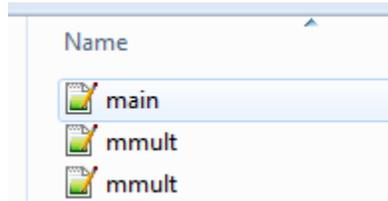

Figure 25 – MinizedMM Source files
- a. Note: From the Factory the switch's protective film should be removed and already set to F. If it is not, the switch will look similar to Figure 25.